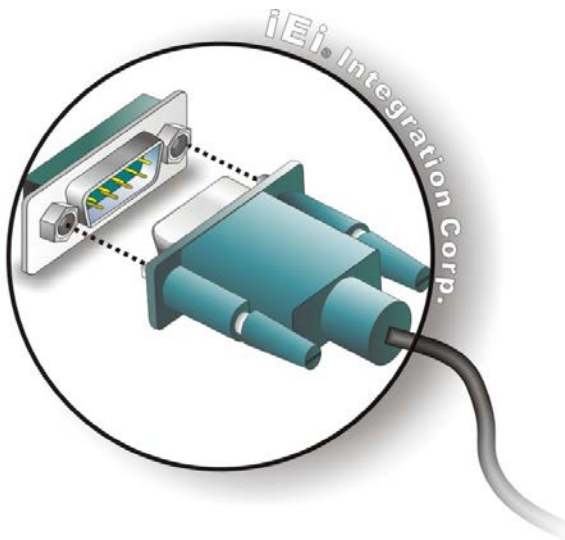

Figure 3-15: Serial Device Connector
Step 2: **Insert the serial connector.** Insert the DB-9 connector of a serial device into the DB-9 connector on the external peripheral interface. See **Figure 3-15**.